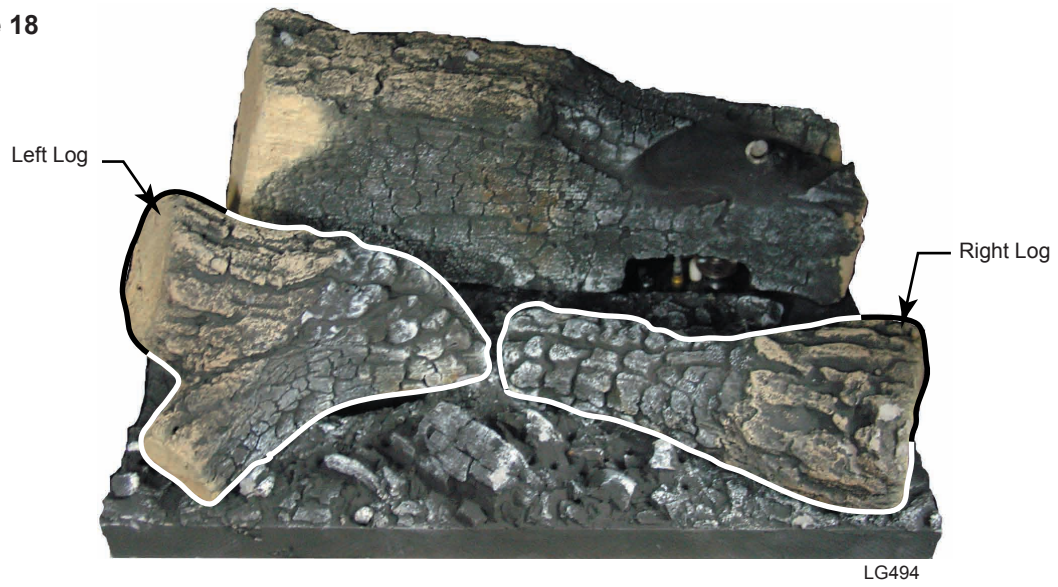

Figure 19
- d. Install top log by mating hole on bottom of log with locating pin on top right side of rear log. (Fig. 19) Position log so it is angled down toward the area where the front two logs meet.